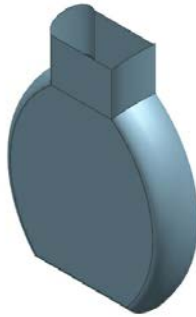

Figure 11-52 The surface model after creating the extrude feature
2. Enter the value **20** in the **Distance** edit box available below the **End** drop-down list and choose the **OK** button. The resulting surface model is shown in Figure 11-52.